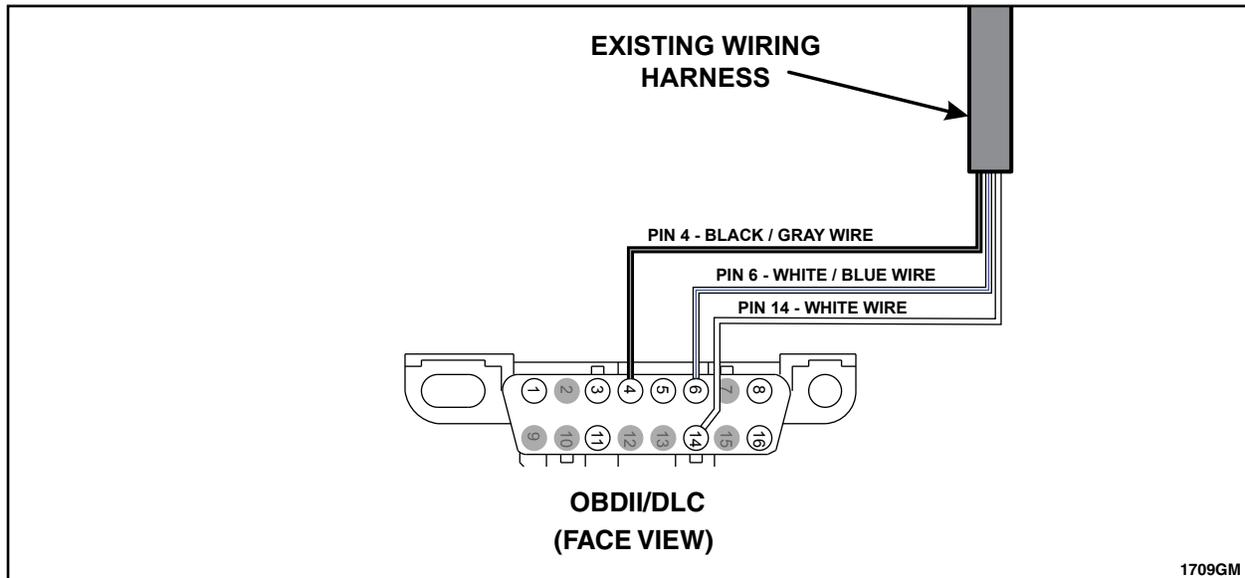

FIGURE D11
11. From the DLC connector, remove the following wires/pins from the connector shell (see Figure D11):